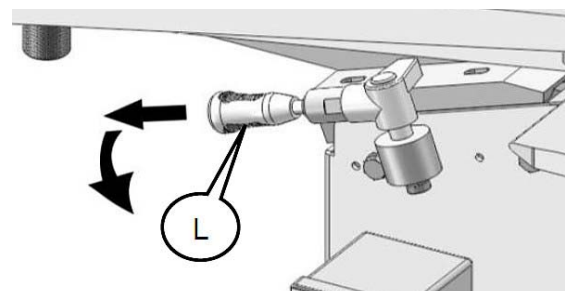

Fig. 24: Swivel work table
Step 4: Swing the jointer plane table back by turning and releasing the handle (L, Fig.24).